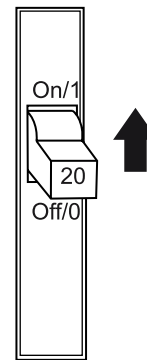

Figure 187. GFCI Circuit Breaker
2. Place a **GFCI circuit breaker** (Figure 187) in the **ON** position.